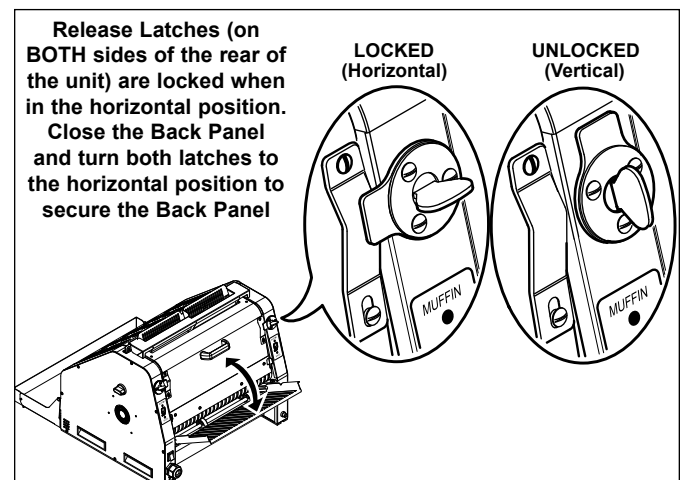

Figure 9. Back Panel Release Latches
- Close the Back Panel and lock the Back Panel Release Latches (Figure 9).